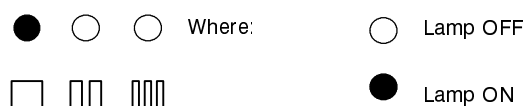

Fig. 43
- 6 The lamps E should give the indication as in Fig. 43. If not, press the reset button repeatedly to obtain it.